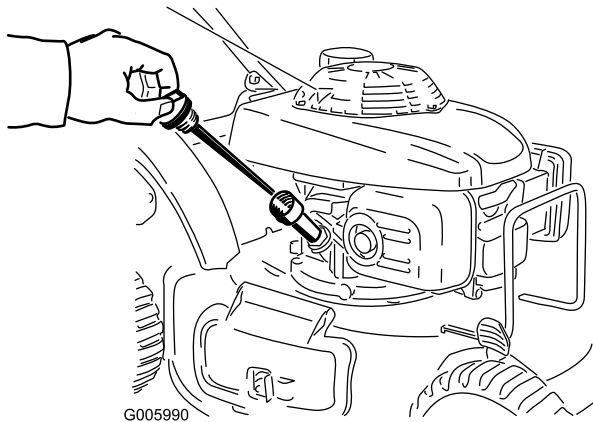

Figure 9
1. Remove the dipstick (Figure 9).
2. **Slowly** pour oil into the oil fill tube, periodically checking the level with the dipstick, until the dipstick indicates that the engine is full as illustrated in Figure 9. **Do not overfill.**